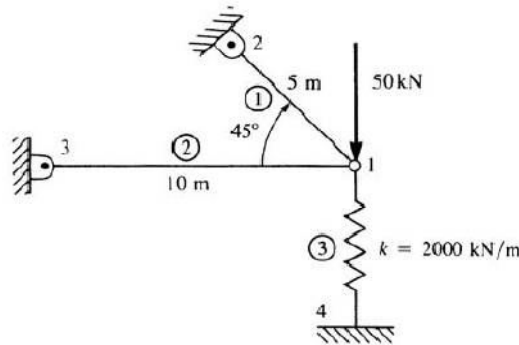

Figure 3
- d) For the plane trusses supported by the spring at node 1 in Figure 3, determine (a) the nodal displacements and (b) the stresses in each element. Let $E = 210$ GPa and $A = 5 \times 10^4$ m² for both truss elements.